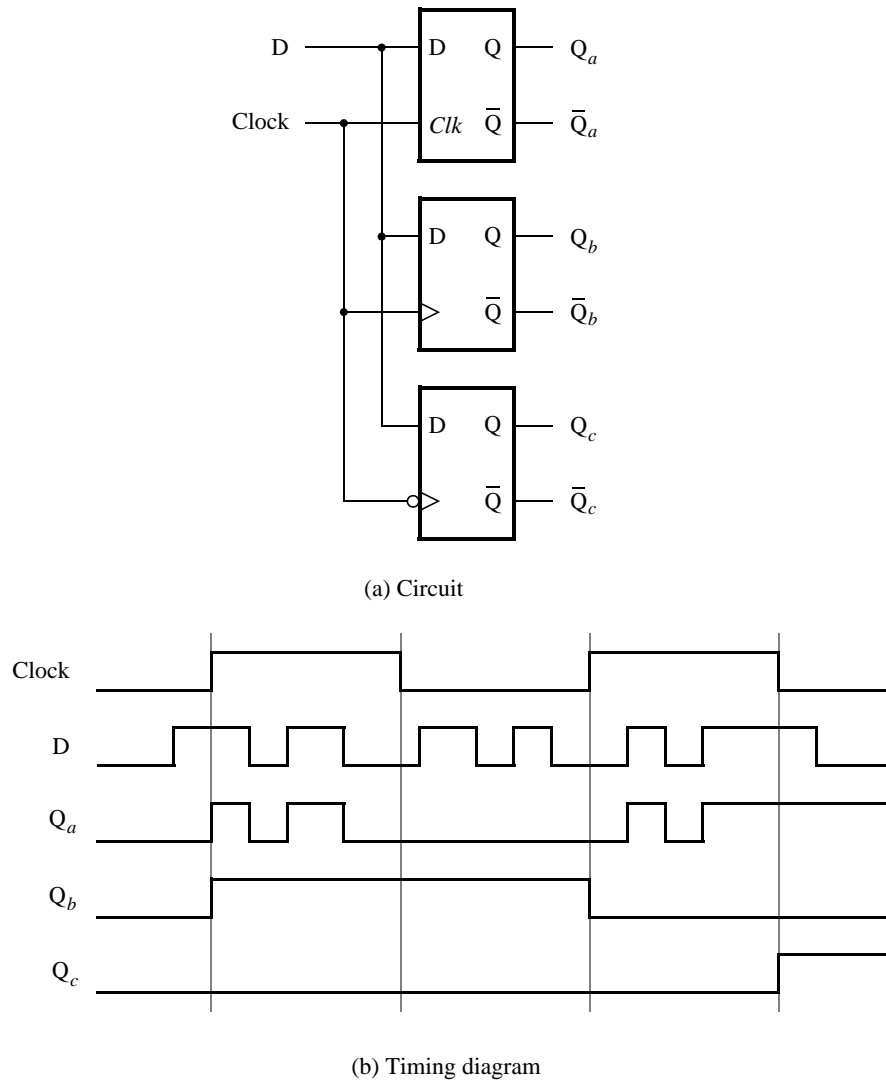

Figure 1: Circuit and waveforms for Part I.
Figure 1 shows a circuit with three different storage elements: a gated D latch, a positive-edge triggered D flip-flop, and a negative-edge triggered D flip-flop.
3. Use the Quartus II Waveform Editor to create a Vector Waveform File (.vwf) which specifies the inputs and outputs of the circuit. Draw the inputs  $D$  and  $Clock$  as indicated in Figure 1. Use functional simulation to obtain the three output signals. Observe the different behavior of the three storage elements.